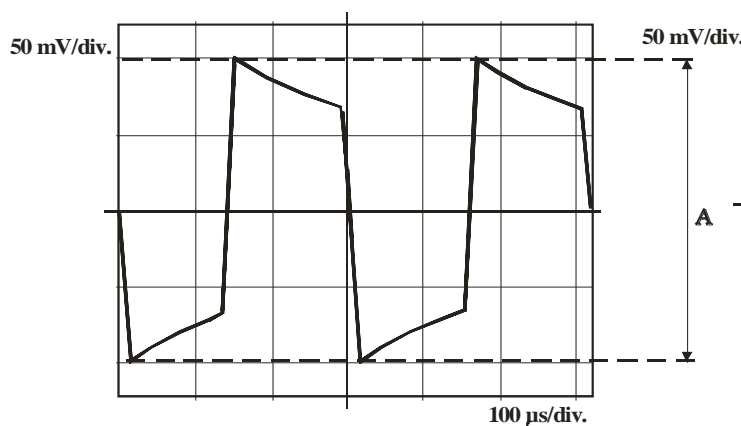
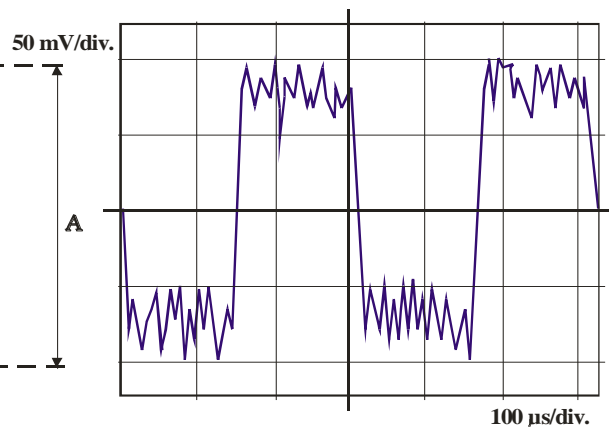

Figure 13 - Correct waveform
Figure 14 - not correct waveform (excessive noise)
- o) Press key "**buzzer**" (15) until the buzzer enabling led "**buzzer On**" (16) is on. When there are no movements in the protection field check that the buzzer is mute. If otherwise, press key "**↓ buzzer adj.**" (14) till it turns off. If when activating the function the buzzer is already mute press key "**↑ buzzer adj.**" (13) till an intermittent operation is obtained, afterwards slightly press key "**↓ buzzer adj.**" (14) till it switches off.
- s) The STC 95 is provided with an **RCA** (23) connector which, through the cable supplied, allows to check the wave form of the received signal. An oscilloscope (any of the types present on the market) is utilised for this check. A good connection between the transmitting head and the receiving head produces the waveform illustrated in fig. 13.
A bad installation produces the waveform illustrated in fig. 14.
**Note** the noise at the tip of the square wave. This means that the signal is not good. Therefore, repeat the pointing operations till the waveform shown in fig. 13 is obtained. In case of bad barrier installation the waveform will be like the one in fig. 14. All the data concerning the tests made on the plant must be reported on the test sheets supplied for each barrier. This will make the servicing operations easier to carry out.